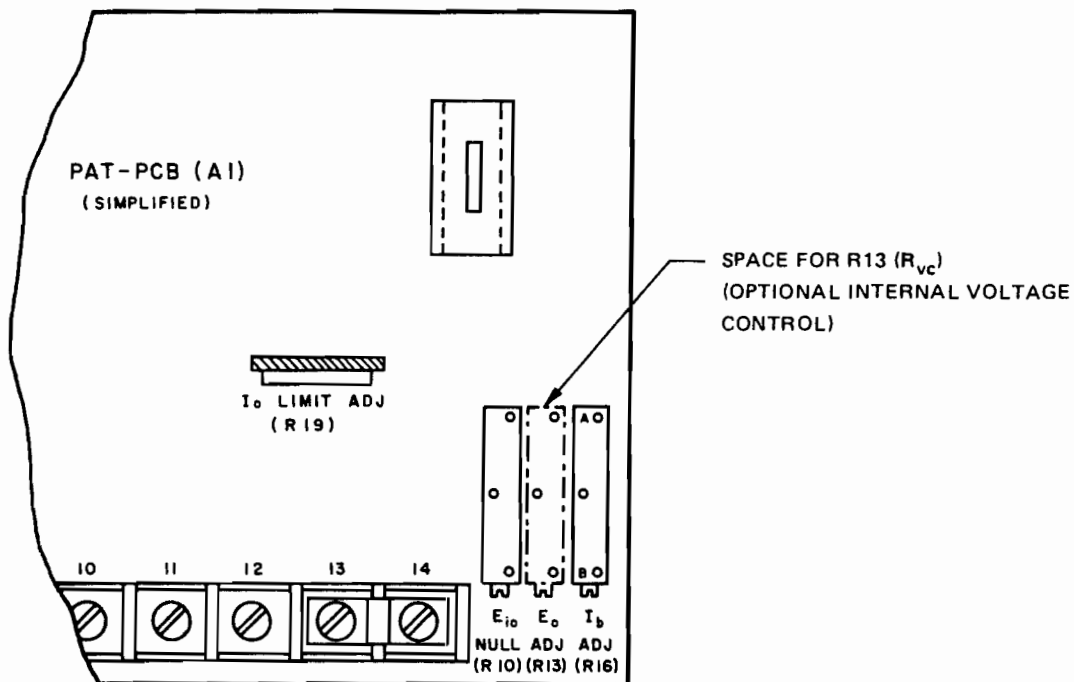

FIG. 5-2 INSTALLATION OF OPTIONAL CONTROLS.
5-6 CURRENT LIMITING CONTROL ADJUSTMENT (Refer to FIG. 5-2) A single-turn potentiometer (R19) conveniently located on the topside of the printed circuit board serves as an adjustment for limiting the output current through the range of 5% to 105% of its maximum rated value. It is factory-adjusted for approximately 5% above the maximum rated output current and has to be reset only if a component should have to be replaced or if a lower limit than the preset value is desired.
**5-7 INSTALLATION AND ADJUSTMENT OF THE (OPTIONAL) VOLTAGE CONTROL RHEOSTAT ( $R_{vc}$ ): REFER TO FIG. 5-2.**
- a) Refer to FIG. 5-2. The voltage control resistance ( $R_{vc}$ ) may be installed internally in the space on the printed circuit board as shown.